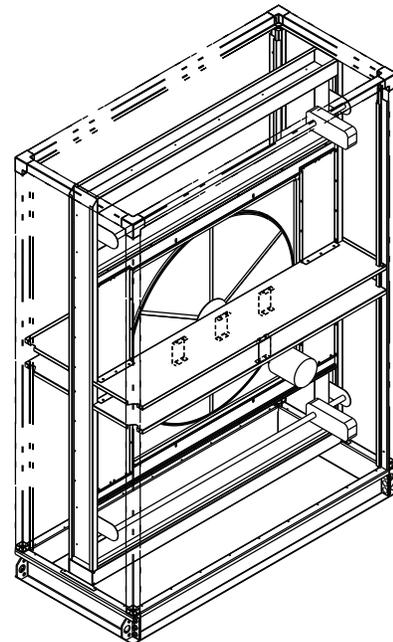

Fig. 189 — Remove Side Baffles
1. Access the wheel from the exhaust fan side. This may be easiest from the adjoining section, depending on the type of section installed. If it is necessary to access from the side of the wheel section, remove side panel as shown in Fig. 189.